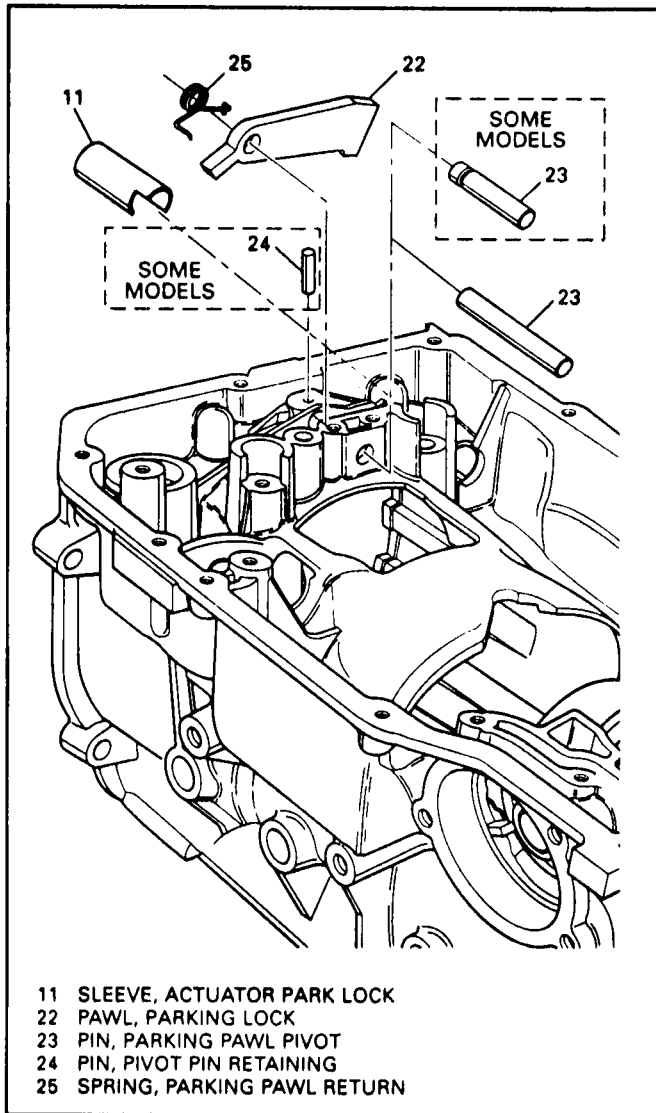

Figure 101
4. Install actuator park lock sleeve (11) into case at extension housing. Refer to Figure 101.
5. Inspect the inside detent lever (17) VERY CLOSELY at the square hole where it sets on the manual shaft.
2. Insert the pivot pin through spring and parking pawl (See Figure 101).
4. Install the retaining pin (24) if used, using a hammer and pin punch.
NOTE: ONLY EARLY 1993 MODELS USE A RETAINING PIN (24), OTHER MODELS USE A LONGER PIVOT PIN WITHOUT A NOTCH OR A RETAINING PIN (SEE FIGURE 101).